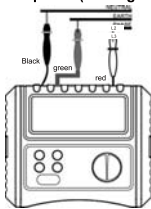

Figure 6
XI. Detecting Phase Sequence(See Figure 6)
- Connect three test leads into three-phase AC system(black to L1, green to L2, red to L3, refer to Figure 6 for details). The tester will automatically indicate the phase sequence and open phase result on the LCD.